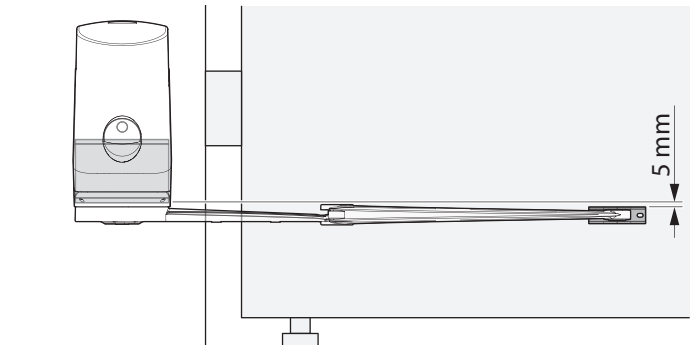

Fig. 4
⚠ WARNING! – Before fixing the rear bracket, make sure that the front bracket will be fixed to a solid position of the gate leaf; the front bracket will have to be secured at a different height than the rear bracket (**Fig. 4**).
02. Define the front bracket position height in accordance with Fig. 4;